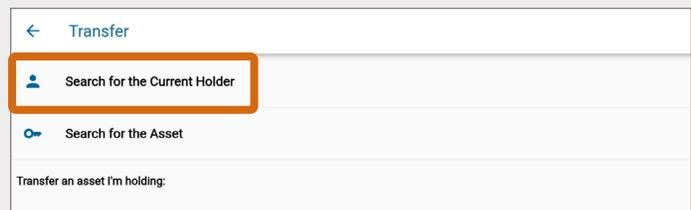

Fig. 113 – Transfer screen – Search for the Current Holder
3. On the **Transfer** screen, if you know the user who currently holds the asset, select **Search for the Current Holder**, as shown in Fig. 113.